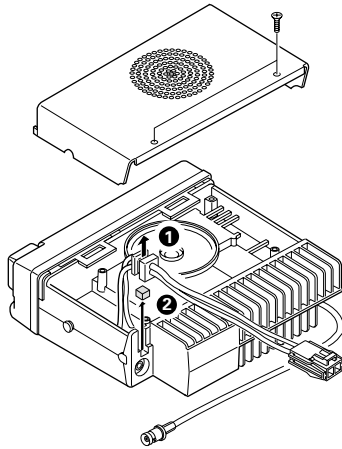

Fig. 1
1. Remove the upper half of the transceiver case, and lift the DC cord bushing (❶) from the chassis.
2. Remove the pad as shown in Figure 1 (❷).
3. Insert the KCT-19 cable (❸) into the chassis (❹).